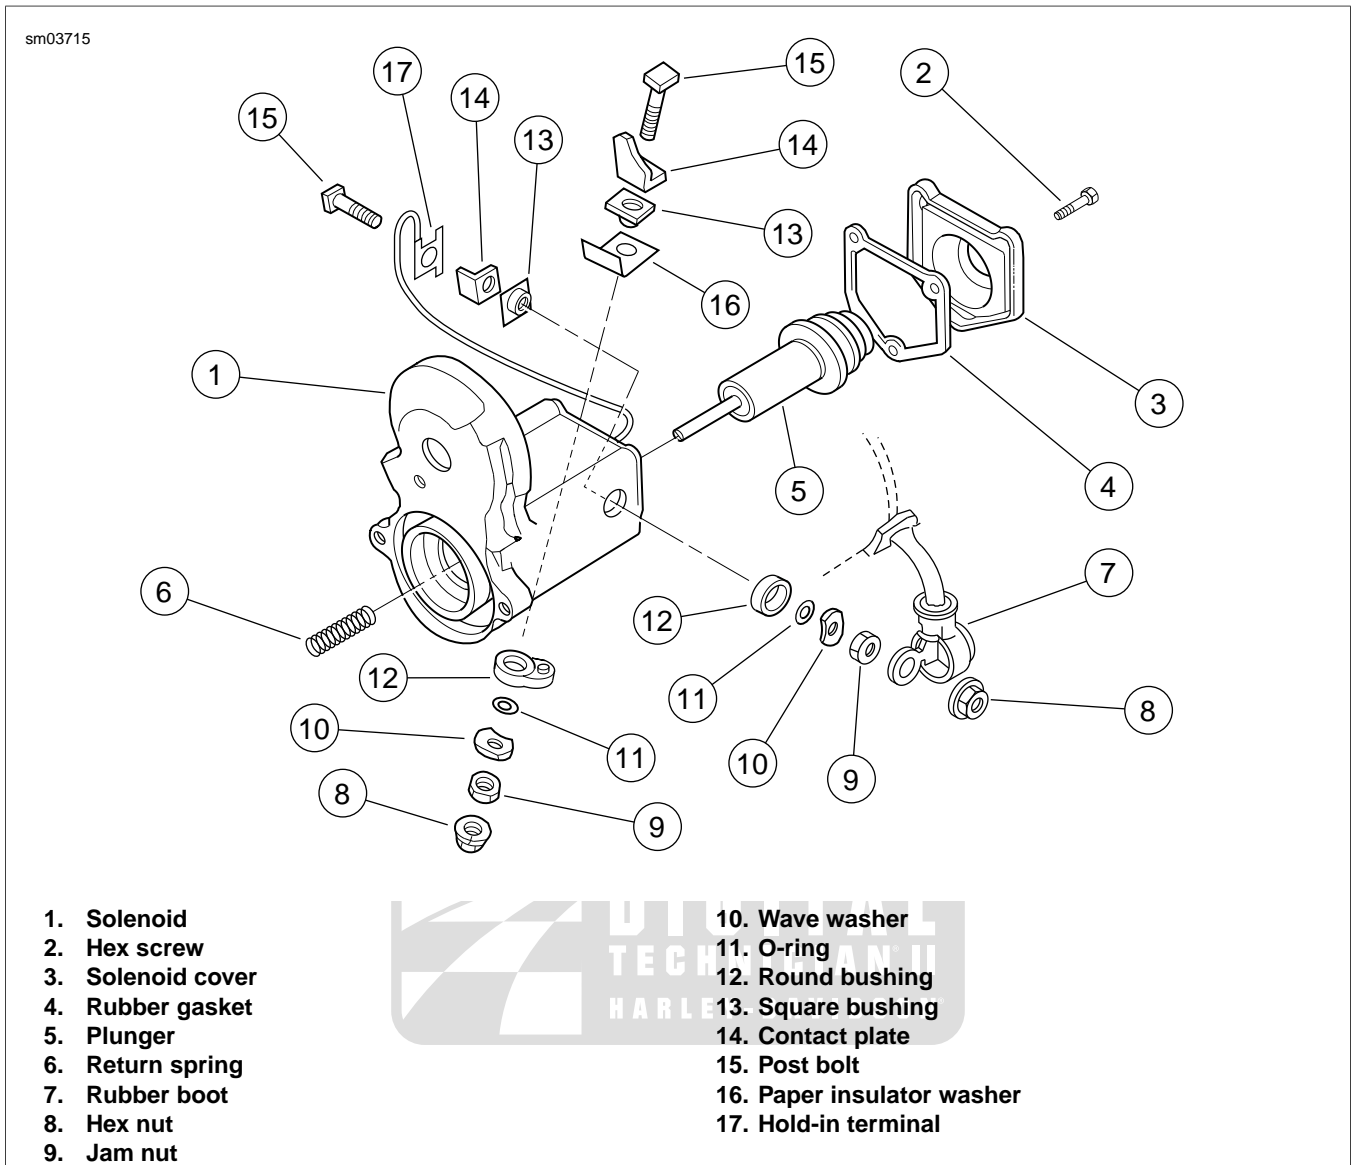

Figure 7-22. Solenoid Assembly
- a. See Figure 7-22. Remove hex nut from post, if still installed. Remove jam nut, wave washer, round bushing and o-ring from post.